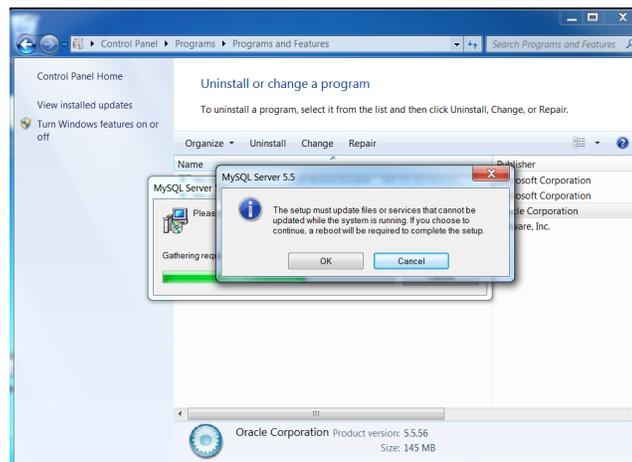

Figure B4
4. Select "MySQL Server xxx" and click Uninstall. Click OK. (Figure B4)